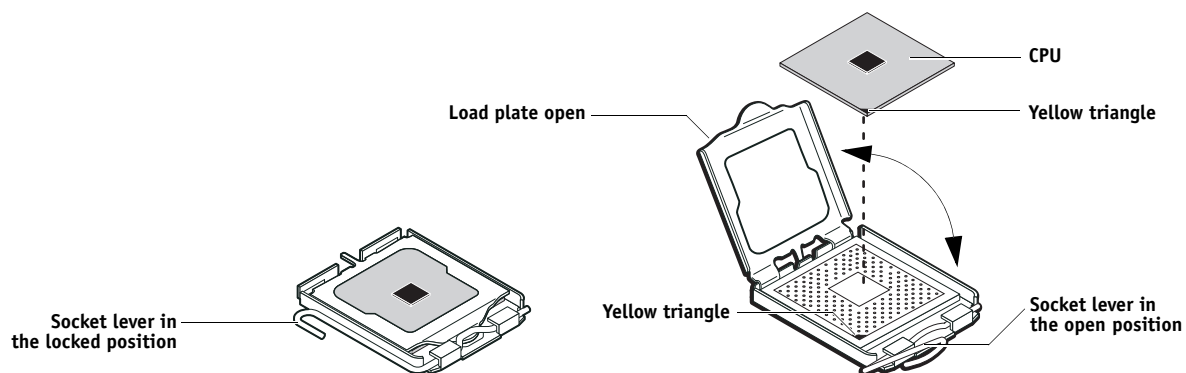

FIGURE 14: Removing/replacing the CPU
- 2 **Open the load plate (see Figure 14 on page 44).**